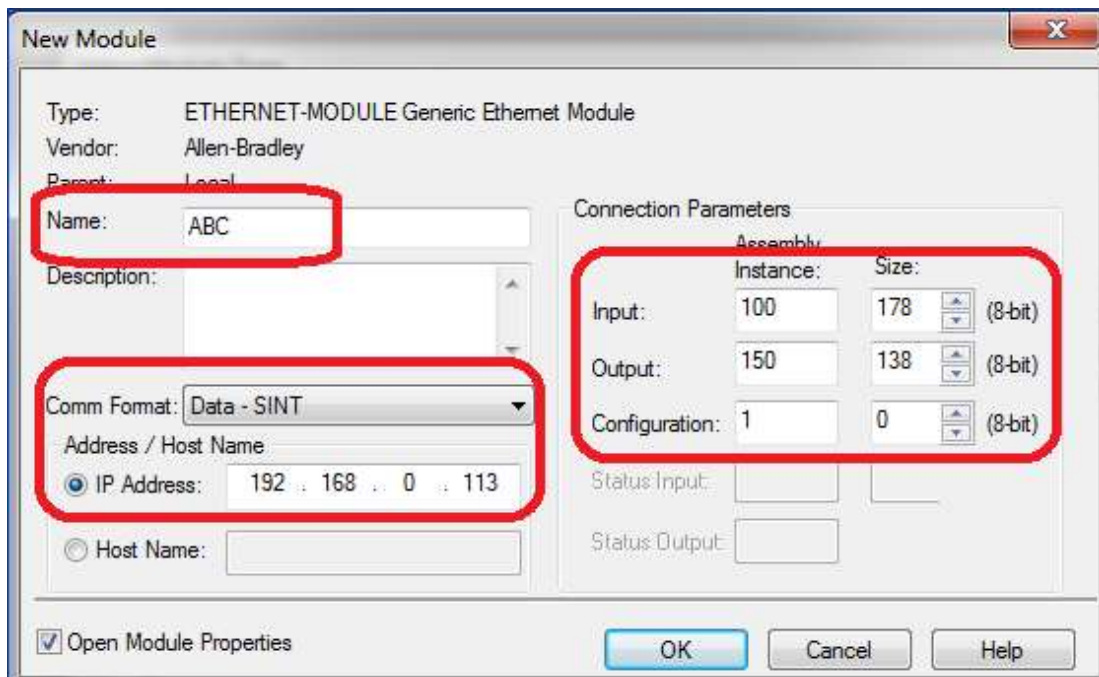

Figure 7 Setup Module properties
- d. In the **Module Properties** window, enter a name for the new module. In this example the module will be named **ABC**. This will create tags in Studio 5000 which can be used to access the memory location in the PLC where the data for the Communicator is stored. See Figure 7.